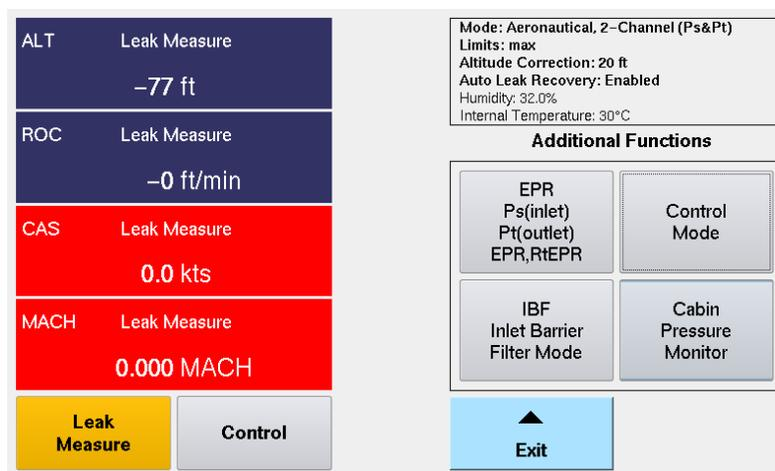

Figure F. 3 Additional Functions Screen
- Select “Additional Functions”. A new screen appears (Fig. F. 3).